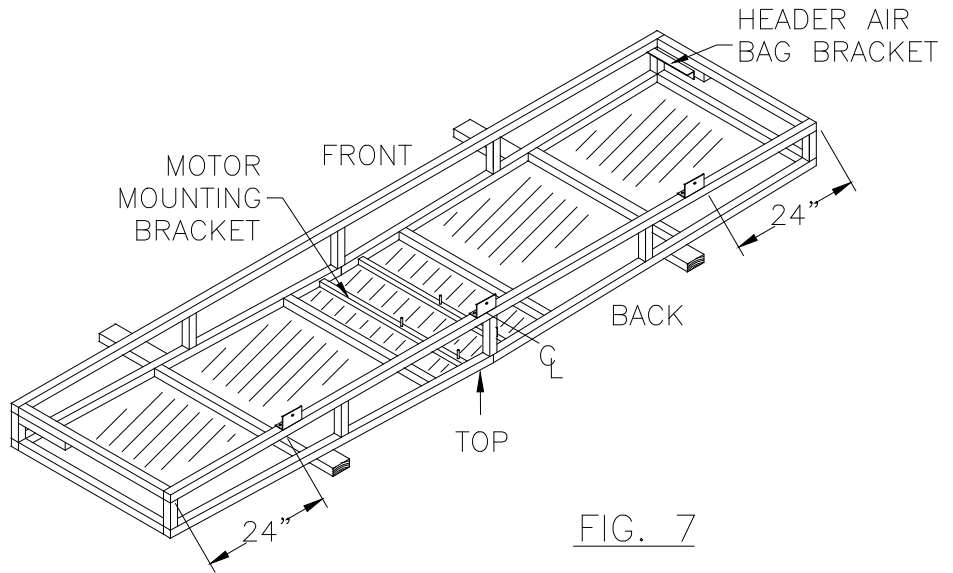

FIG. 7
- a. **Position Mounting Brackets** on back of Head Frame (Figure 7).